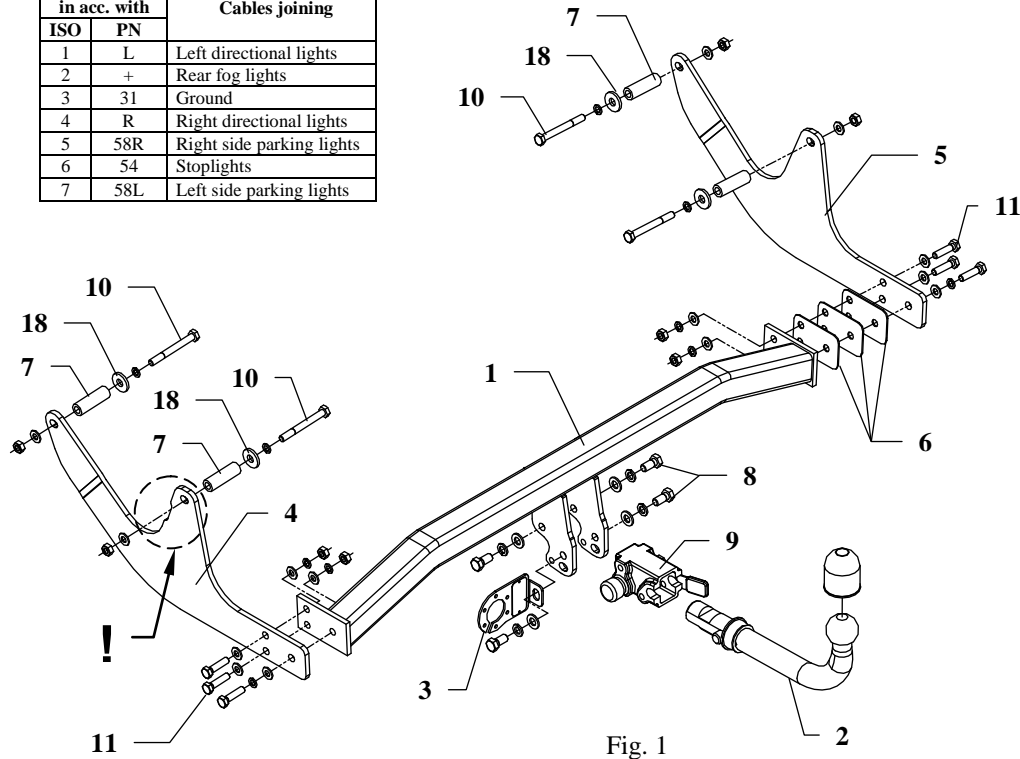

Fig. 1
3. To holes (from inside) put distance sleeves (pos. 7) with big washers (pos. 18) and bolts M10x90mm (pos. 10) as shown on the drawing 2.
4. From below the car, on protruding bolts M10 put side brackets pos. 4 and 5. Twist loosely.
5. Between mounted side brackets put main bar of the towing hitch (pos. 1) and fix with bolts M10x40mm (pos. 11) according to figure 1. Remember about fish-plates (pos. 6) on the right side!
7. Fix body of the automat (pos. 9) and the socket plate (pos. 3) using bolts M12x25mm (pos. 8) from accessories. Place tow-ball (pos. 2) according to supplied instruction.